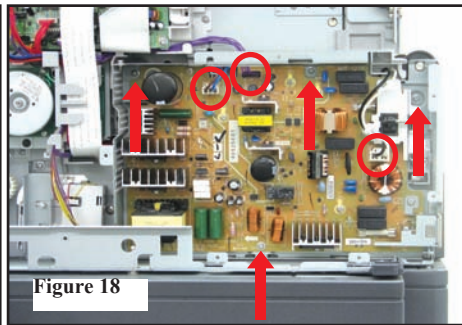

Figure 18
18. Remove PFC power supply, 4 screws and 3 connectors. (Figure 18)